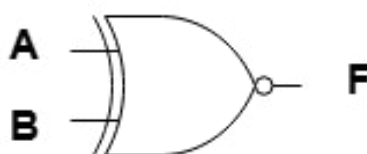

Figure 4.7: Two-input XNOR Gate
- b. **XNOR (Exclusive NOR):** An XNOR gate is the opposite of an XOR gate. It turns on only when both switches are in the same state: either both on or both off. It outputs 1 if both inputs are the same (either both 0 or both 1). It is like saying, “either both or neither.” (i.e., Outputs 1 if the inputs are the same, and 0 if they are different). It is represented by a circle with a dot ( $\odot$ ). Example:  $1 \text{ XNOR } 1 = 1$ , and  $0 \text{ XNOR } 0 = 1$ , but  $1 \text{ XNOR } 0 = 0$ . It can also be represented diagrammatically, as shown in Figure 4.7.